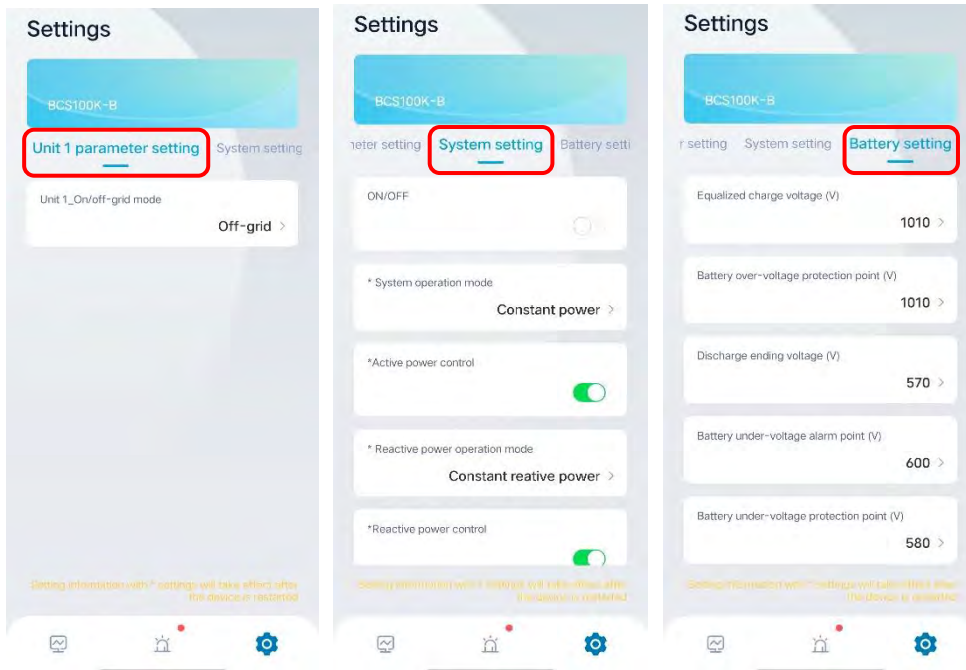

Figure5-8 Setting info
- Tap the bottom icon , you can view and change the related setting of energy storage converter (as shown in Figure5-8), such as: ON/OFF, system running mode, active power and reactive power, etc.